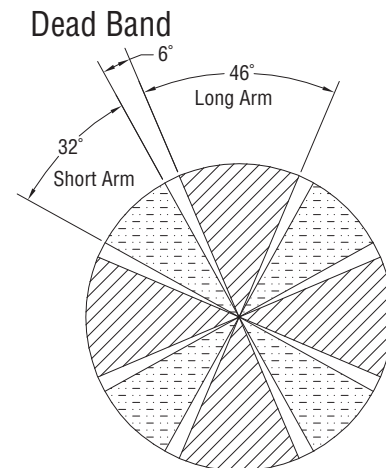

Figure 4-6, Arm Movement
1. Arm movement is controlled by the position and sequence function of the swivel valve. (Figure 4-6)
3. Positioning of the short arm will be allowed as shown in Fig. 4-6.